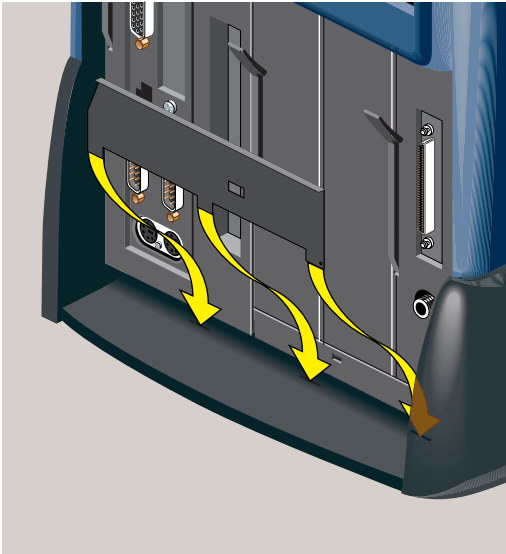

Figure 1-18 Attaching the Lockbar to the Workstation
1. Place the lockbar on the rear of the workstation, as shown in Figure 1-18.